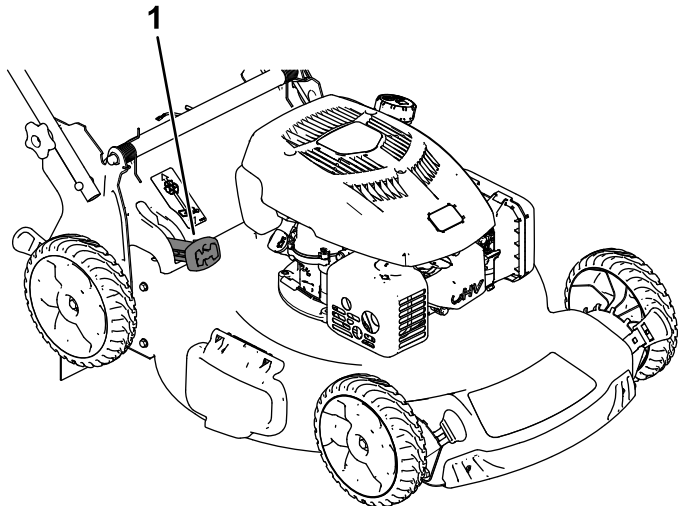

Figure 24
- **To bag the grass and leaf clippings**, press the button on the bag-on-demand lever and move the lever forward until the button on the lever pops up (Figure 24).